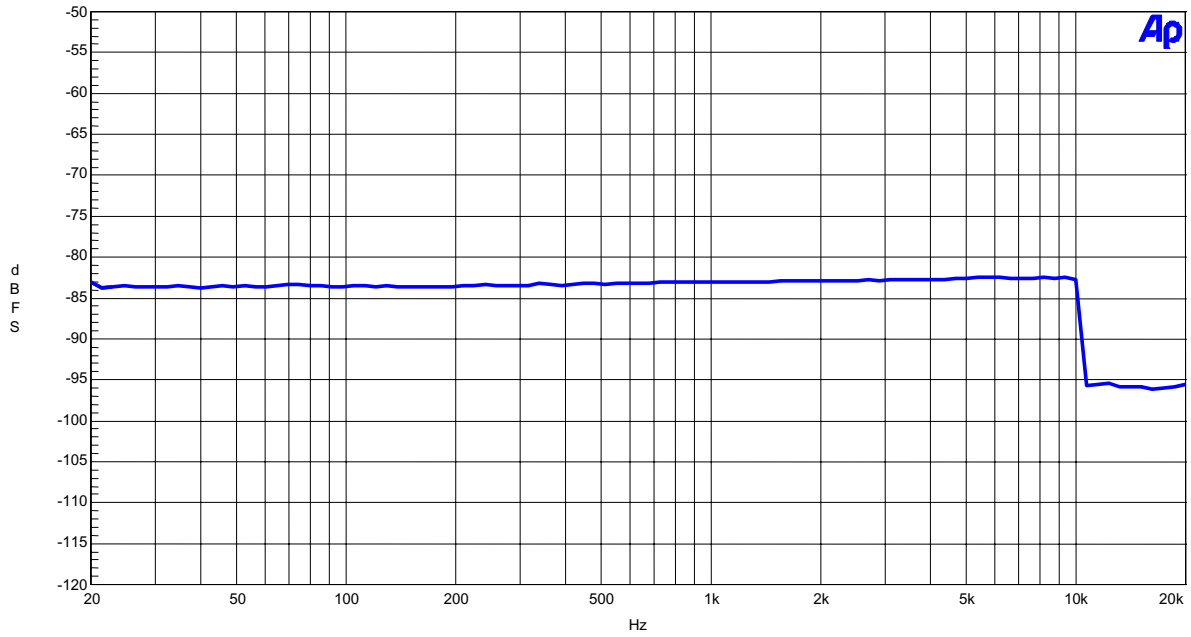

Figure 1-5. THD+N vs fin (Input Level=-1dBFS)
- Figure 1-5. THD+N vs. fin (Input Level=-1dBFS)